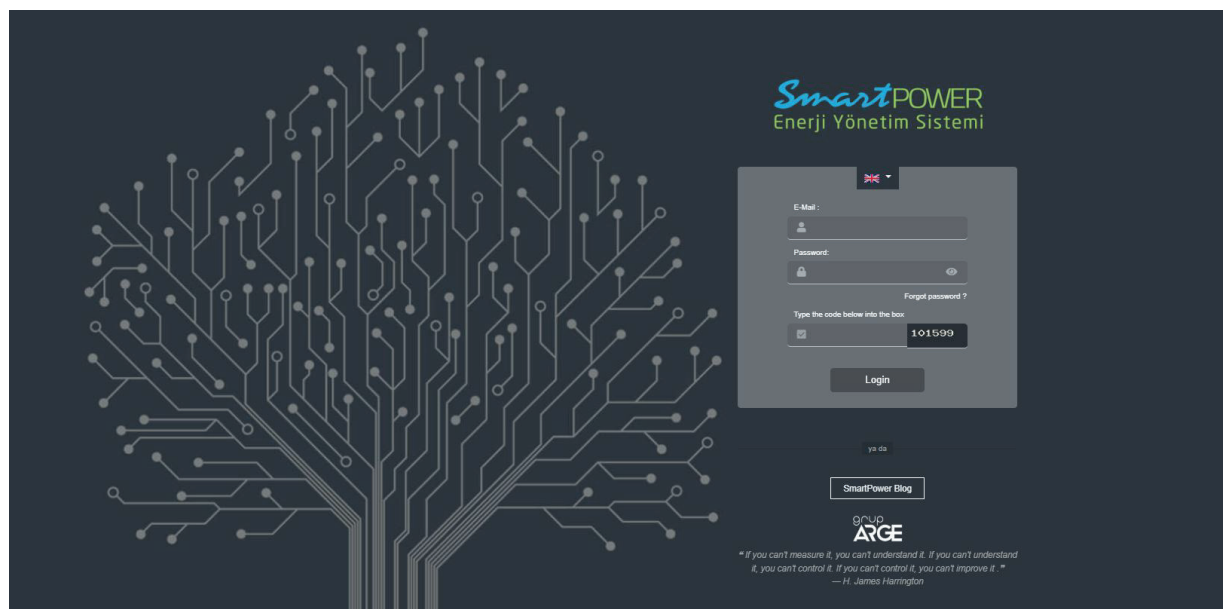

Figure 6.1
1. Visit www.enerjitakibi.com. You will see the login screen as shown in Figure 6.1.